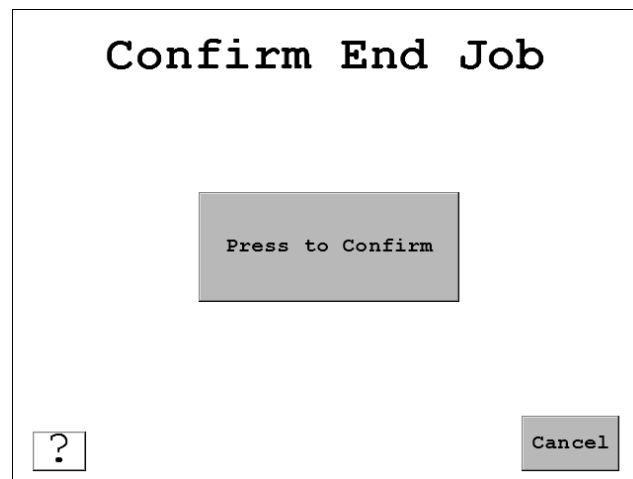

Figure 4-12. Confirm End Job Screen
2. Press *End Job* to end the currently running job. The Confirm End Job screen displays (Figure 4-12, page 86).